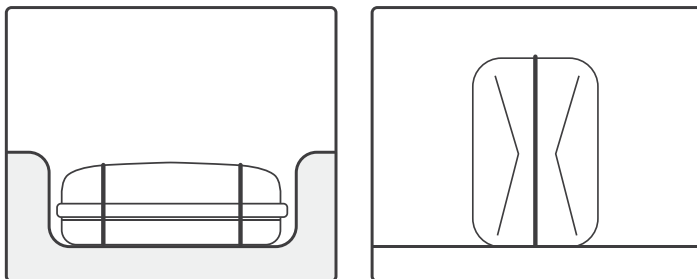

Fig 6 - Container Storage Orientations
7.2.1.2 The liferaft can be installed in a horizontal position or a vertical position (see Fig 6)